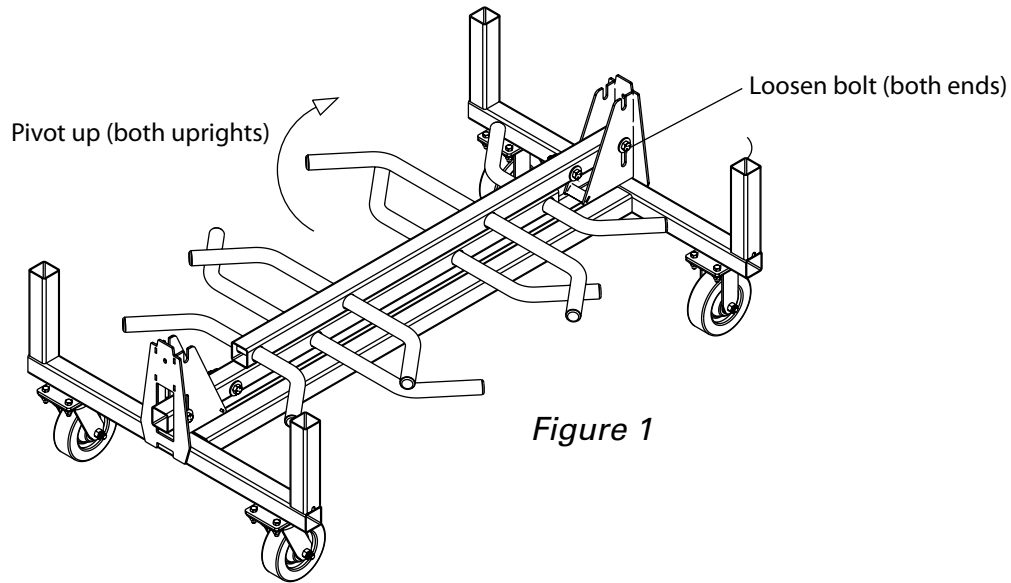

Figure 1
2. Loosen the bolt at the base of both uprights and pivot the uprights upward. (See Assembly Figure 1).